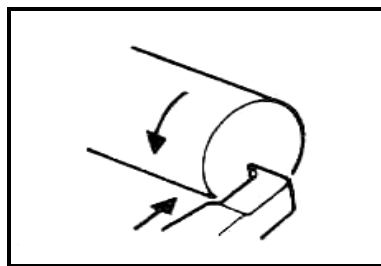

FIGURE 1.2
1.8 Which lathe operation is shown in FIGURE 1.2 below?